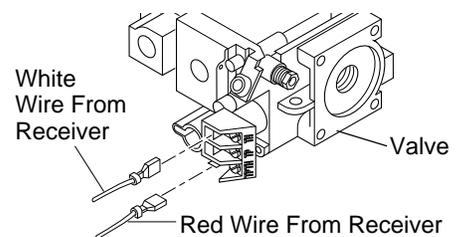

Figure 19 - Connecting Wires
6. Connect wires as shown in Figure 19.